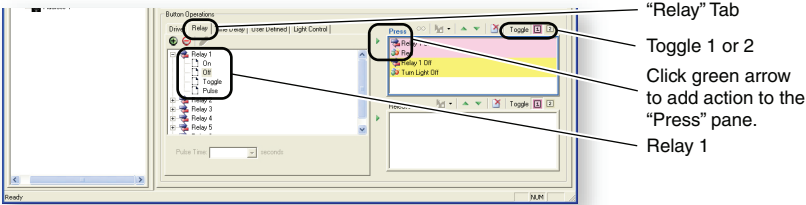

Figure 3-6 — Configuring the mute button (steps 4-6)
- 4. In the Button Operations section, select the **Relay** tab and expand the "Relay 1" directory (see figure 3-6).